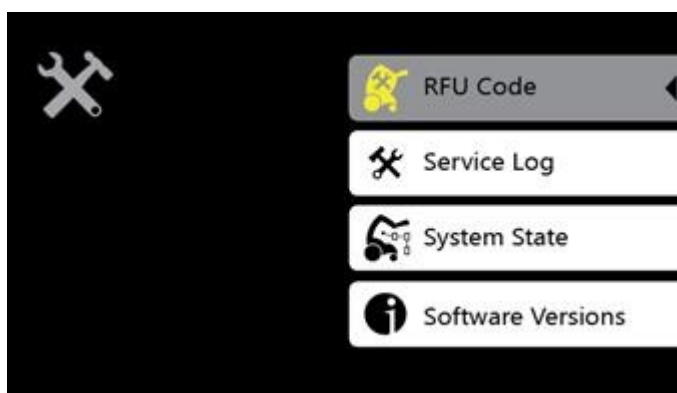

Figure 3 – Maintenance Mode
2. To review the RFU codes tap **RFU Code** button (Figure 3).